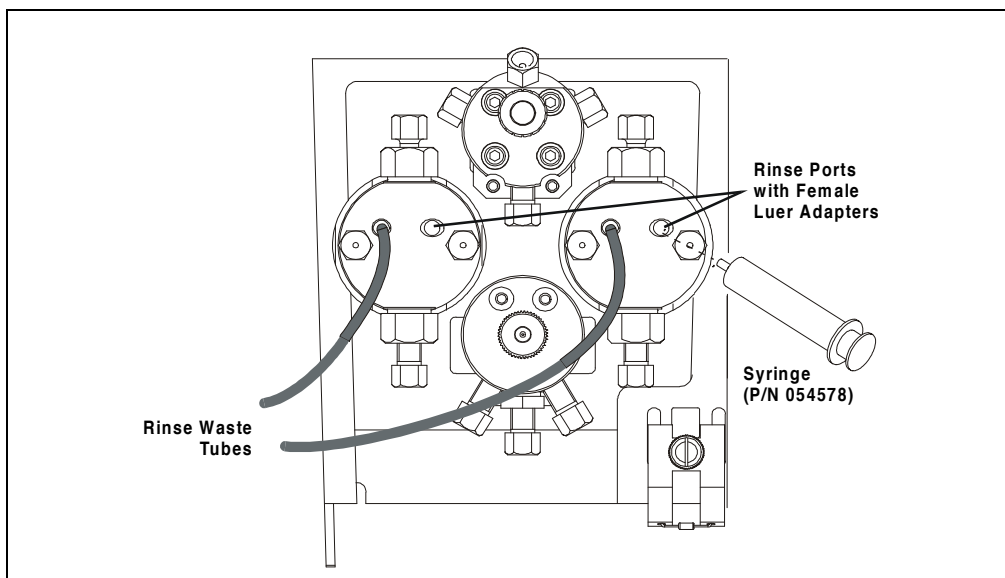

Figure 3-19. Rinsing the Piston Seals
1. Open the lower pump door and locate the two rinse ports on the front of each of the pump heads. Figure 3-19 shows the rinse port connections.
2. Install a rinse waste tube (P/N 054418), provided in the GP50 Ship Kit, onto each head (see Figure 3-19).